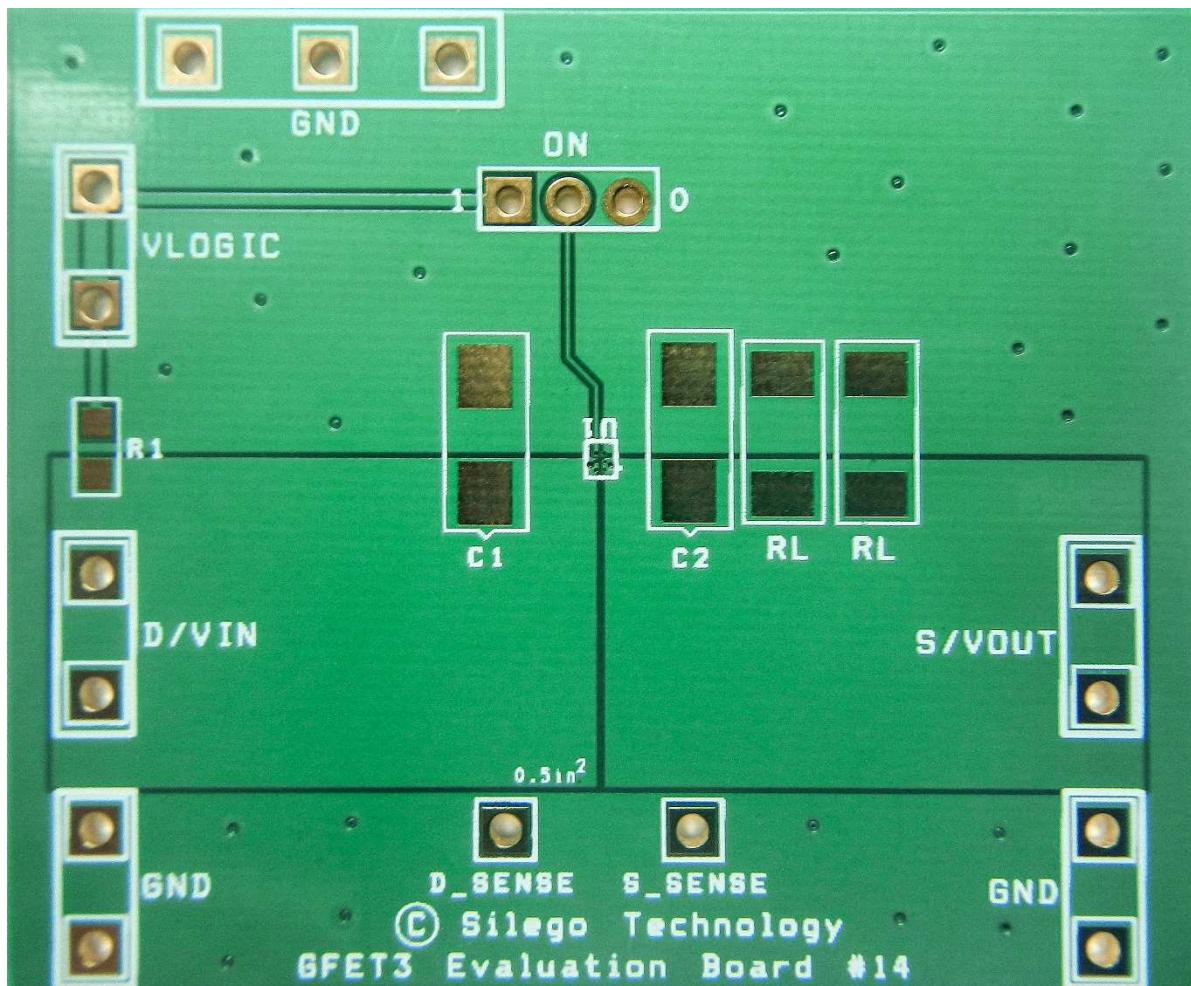

Figure 8. SLG59M1685C Evaluation Board.
1. Since the VIN and VOUT pins dissipate most of the heat generated during high-load current operation, it is highly recommended to make power traces as short, direct, and wide as possible. A good practice is to make power traces with an absolute minimum widths of 15 mils (0.381 mm) per Ampere. A representative layout, shown in Figure 8, illustrates proper techniques for heat to transfer as efficiently as possible out of the device;
A GreenFET Evaluation Board for SLG59M1685C is designed according to the statements above and is illustrated on Figure 8. Please note that evaluation board has D_Sense and S_Sense pads. They cannot carry high currents and dedicated only for RDS_{ON} evaluation.